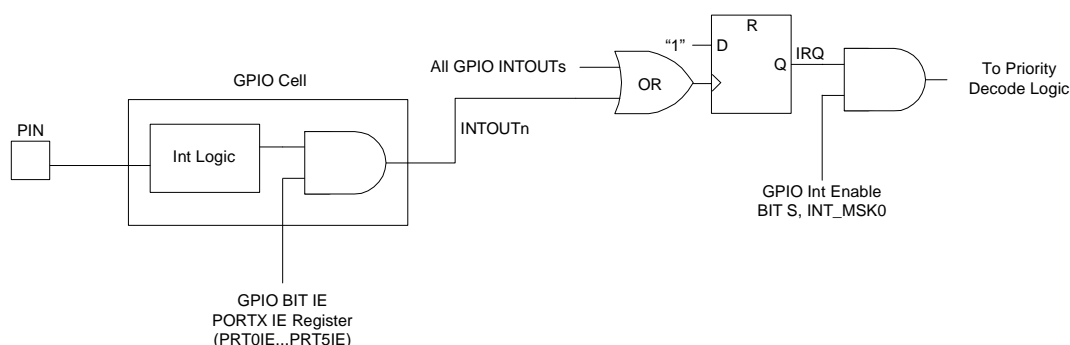

Figure 11: GPIO Interrupt Enable Diagram
6. Because the GPIO interrupts all share the same interrupt vector, the source for the GPIO interrupt must be cleared before any other GPIO interrupt will occur (i.e., the OR gate in Figure 11: "ors" all of the INTOUTn signals together). If any of the INTOUTn signals are high, the flip-flop in Figure 11: will not see a rising edge and no IRQ will occur.